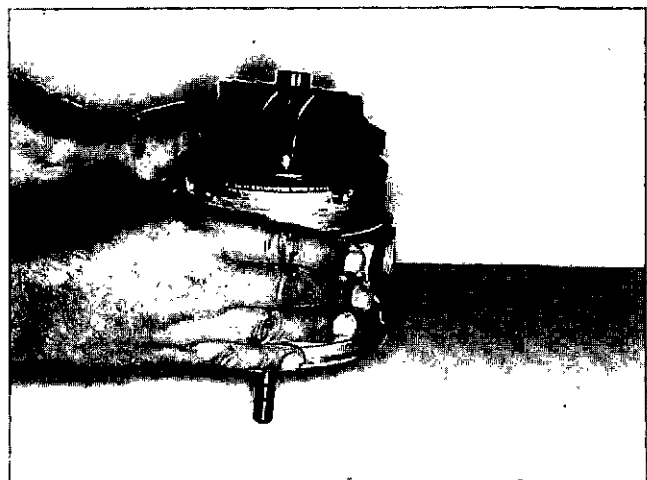

Fig. 3-8, (VTST33). Removing the wheel and shaft from the bearing housing
11. To remove the rotor assembly from the bearing housing, reverse the bearing housing and strike the rotor shaft on the workbench, Fig. 3-8.